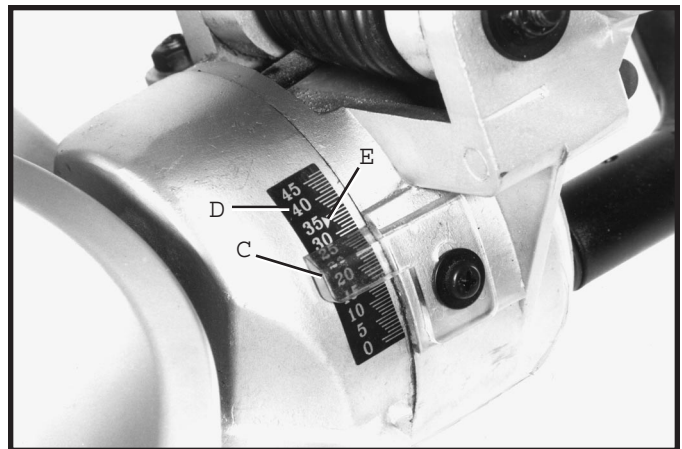

Fig. 28
2. Positive stops are provided to rapidly position the saw blade at 90 and 45 degrees to the table. Refer to the section of this manual titled ADJUSTING 90 AND 45 DEGREE BEVEL POSITIVE STOPS. The bevel angle of the cutting arm is determined by the position of the pointer (C) Fig. 28, on scale (D).
3. In addition, an indicator (E) Fig. 28, is provided on the bevel scale at the 33.9 degree bevel angle for cutting crown moulding. Refer to the CUTTING CROWN MOULDING section of this manual.